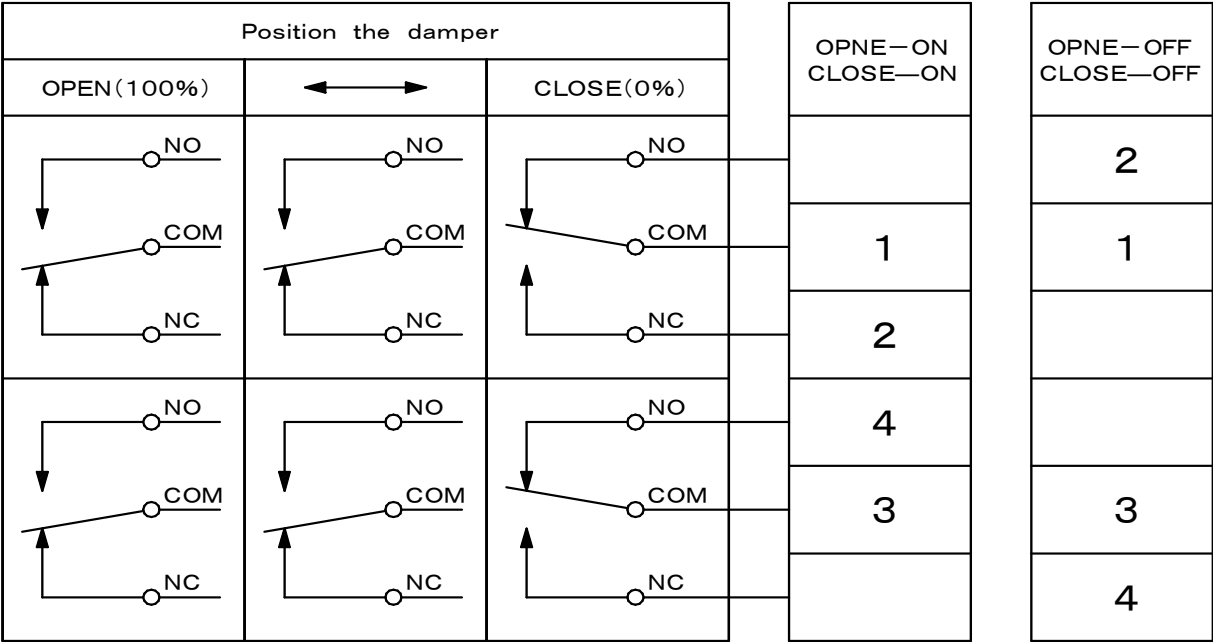

Figure 5-3
- ② Please be careful so that rainwater does not invade the control drive inside when wiring.
- ③ When an electrical component of non-explosion proof type is installed in the control drive, the wiring between the terminal stand and the electrical components is finished in the factory.
- ④ When the wiring connection from electric units of pneumatic drive to a terminal stand is done, please connect wiring to a terminal according to a wiring distribution diagram and numbers marked on the top surface of terminal. (figure 5-3)